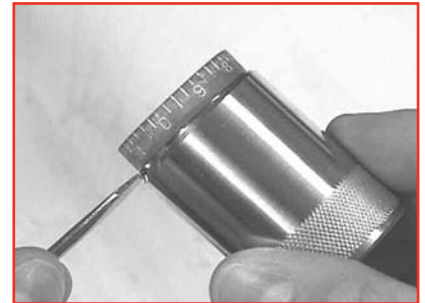

Figure 2
- 1.5 Using a small screw driver, pry the calibration ring (290) off of the knob (310) as seen in Figure 2. **There are several components in the conversion kit that look similar to the existing components, be sure to set aside all components EXCEPT for the knob (310).**
- 1.15 Slide the calibration ring (290) onto the knob (310), being sure to orient the numbers as seen in Figure 2. Screw this subassembly onto the stroke adjuster body (260) until the knob bottoms out. There should be a gap of approximately .080 inches between the calibration ring and the hex portion of the stroke adjuster body.